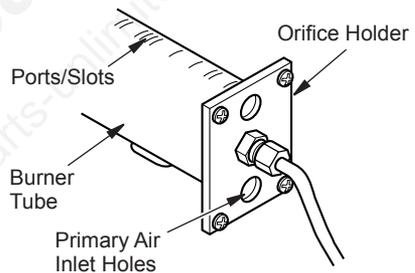

Figure 60 - Orifice Holder On Outlet Burner Tube
2. Inspect burner, pilot and primary air inlet holes on orifice holder for dust and dirt (see Figure 60).